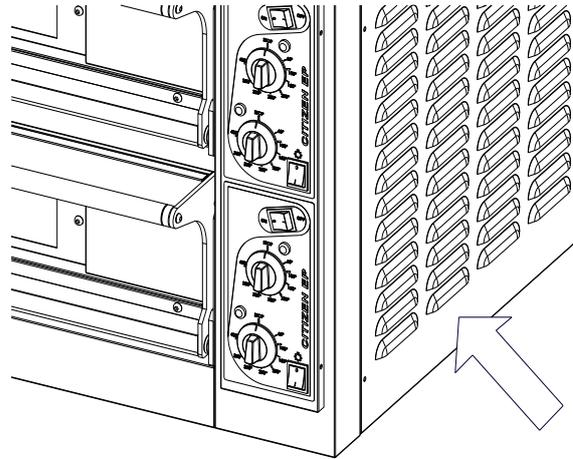

Figure 4.1. Cooling openings
**⚠ In particular it is necessary to avoid obstructing the cooling apertures. (Figure 4.1).**